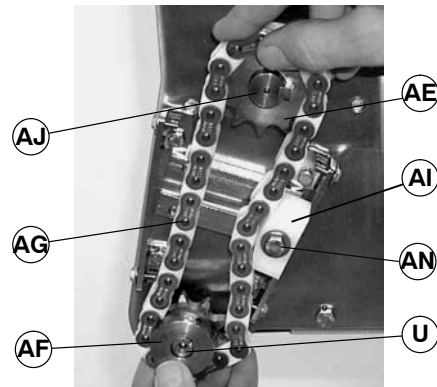

Figure 26
6. Install new timing chain (AG of Figure 26) over sprockets (AE and AF). Install timing chain and sprockets on conveyor input shaft (U) and gearmotor output shaft (AJ). Do not tighten sprocket set screws.